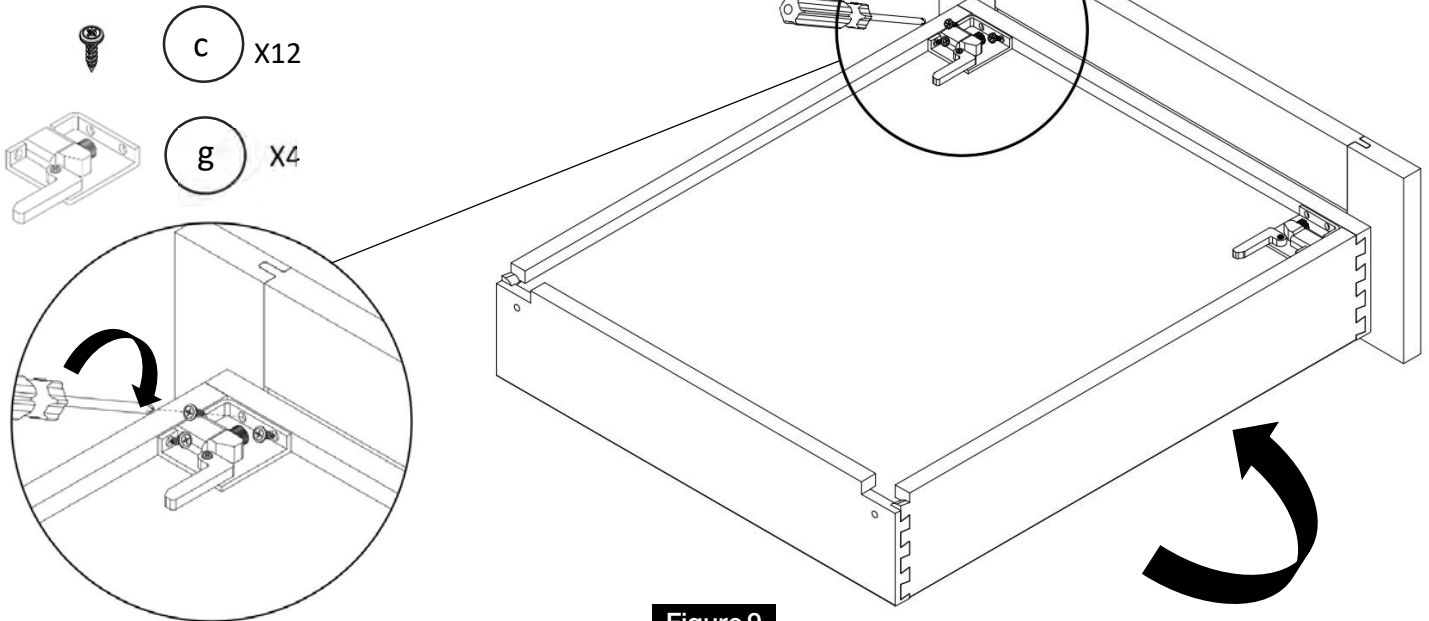

Figure 9
Attach the Drawer Clips (g) using screws (c) onto the bottom of the drawers. (H) (Figure 9)